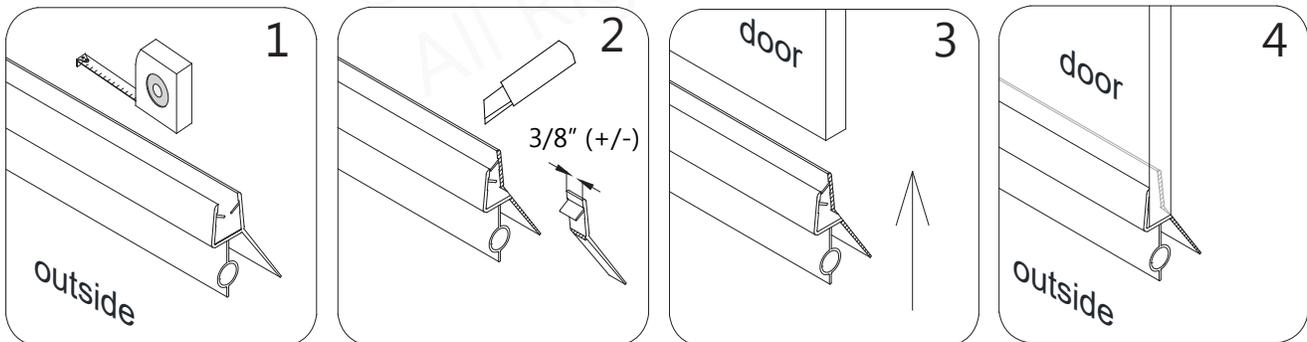

Fig 23
23. Cut the **Sweep Vinyl Seal (#07)** to the width of the **Door Glass (#01)**. Notch approximately $3/8''$ off of the inner side of the **Sweep Vinyl Seal (#07)** where it overlaps the strike vinyl when the door is closed. Press the **Sweep Vinyl Seal (#07)** tightly onto the bottom edge of the **Door Glass (#01)**. (Fig 23)